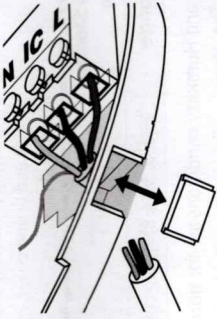

Figure 3
- the mounting plate has a removable section, take it out to interface directly with 25mm trunking as shown in Figure 3. If interfacing to 16mm trunking carefully cut around the marked section, leaving the top intact and replace the section. (If you are not using surface wiring, the removable section must be left in place for electrical safety reasons).